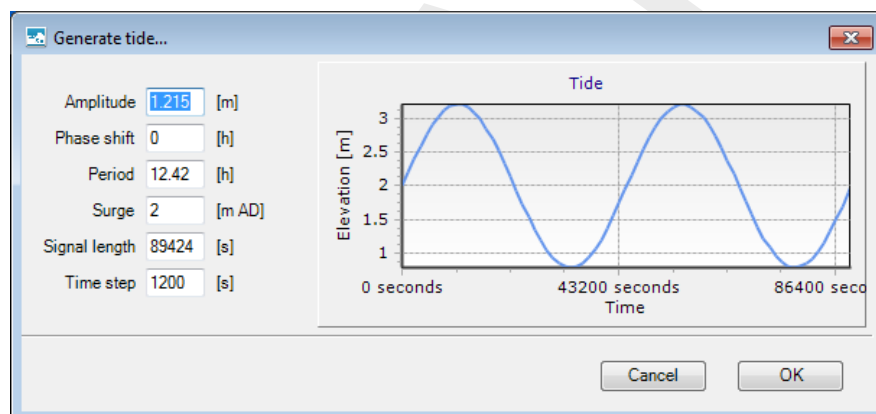

Figure 4.6: Example of the tide generation dialog
- ◇ By generating a simple sinusoidal tide with a constant surge level above Mean Sea Level. The user can do this by pressing the "Generate tide" button below the Offshore water level editor, which brings up the tide generation dialogue (Figure 4.6). In the tide generation dialogue, the user can specify the following tide and surge parameters: